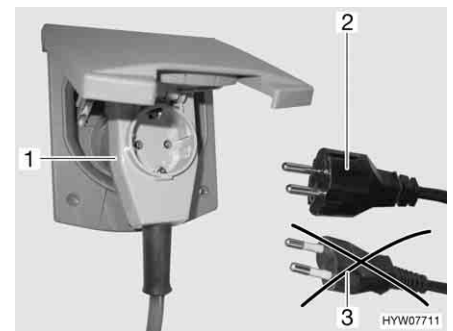

Fig. 143 Connecting an angled connector with socket
- ▶ When using a CEE 17 angled connector with rear socket (Fig. 143,1) only use a rubberised and sealed IP 44 socket with earth contact (Fig. 143,2). Do not use sockets without earth contact (Fig. 143,3).